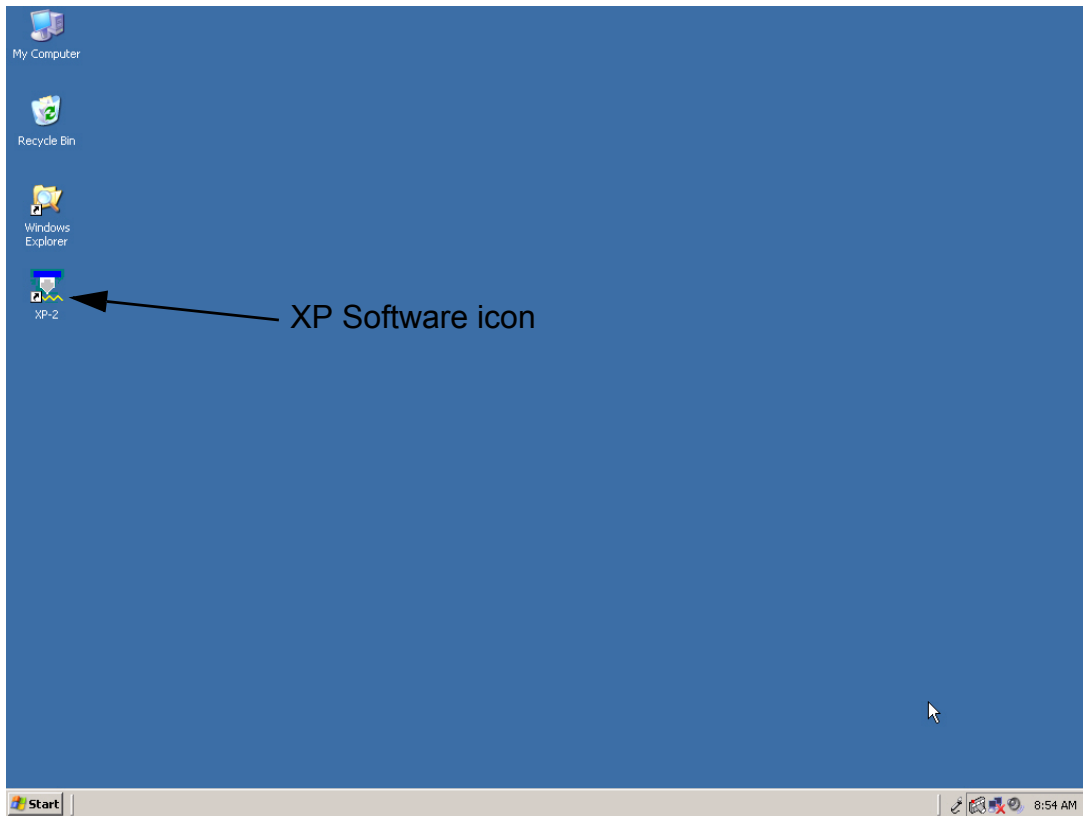

Figure 2.6: Standard computer's desktop with XP software icon displayed for easy startup of the software.
3. To start the XP software, **Double Left Click** on the XP software icon located on the computer desktop (see Figure 2.6).